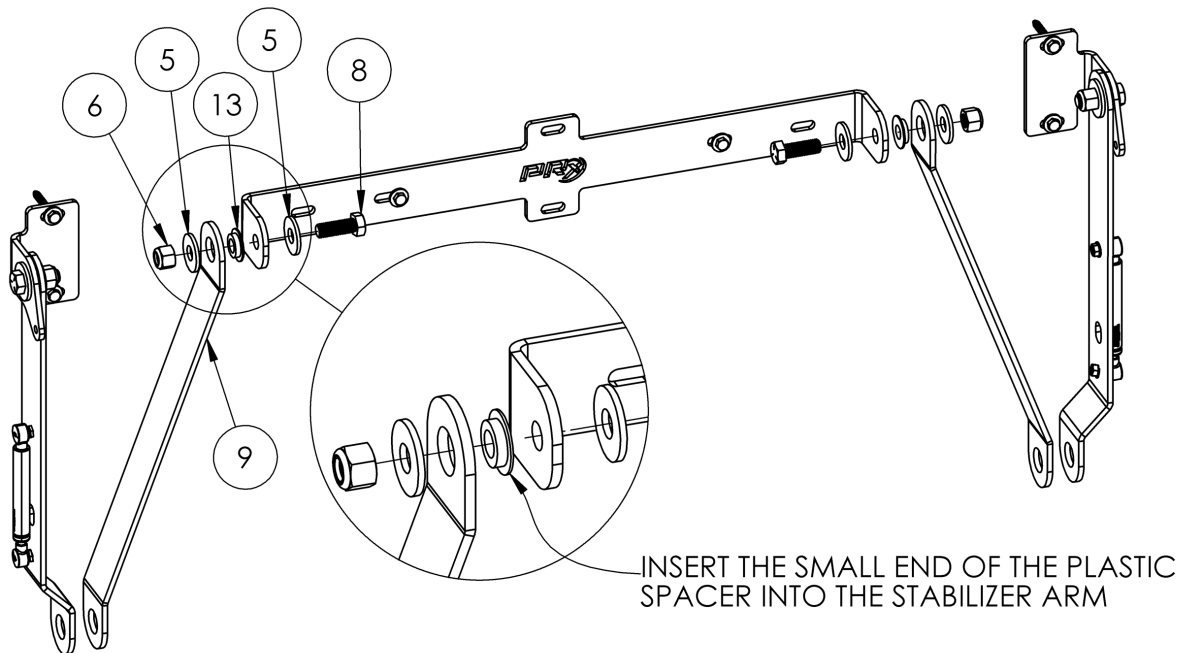

Figure 7: Attaching the Stabilizer Arms
1. Place the small side of the plastic spacer (13) into the stabilizer arm (9) (**Figure 7**).
3. Attach the stabilizer bracket to the stabilizer wall bracket using a 1-3/4" hex head bolt (8) and 5/8" washer (5) on the inside of the stabilizer wall bracket "ear" and a 5/8" washer (5) and 5/8" lock nut (6) on the outside of the stabilizer arm.